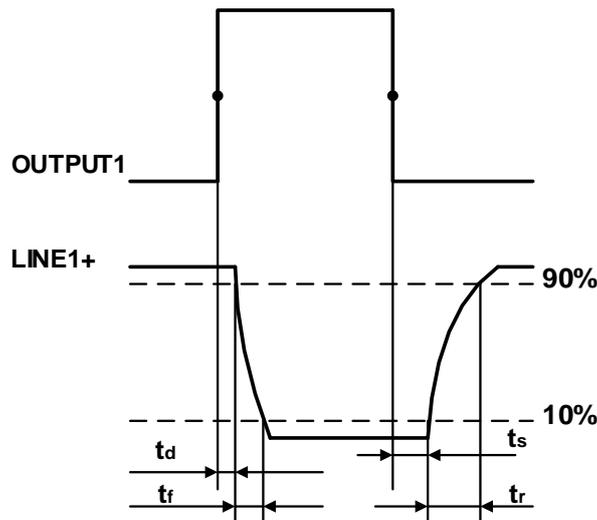

Figure 7-6 Parameter of opto-isolated output circuit
- Rising time delay = t_r+t_d : $<50\mu s$ ($0^\circ C\sim 45^\circ C$) (parameter description is shown in Figure 7-6)
- Falling time delay = t_s+t_f : $<50\mu s$ ($0^\circ C\sim 45^\circ C$) (parameter description is shown in Figure 7-6)
- Rising time delay = t_r+t_d : $<20\mu\text{s}$ ($0^{\circ}\text{C}\sim 45^{\circ}\text{C}$) (parameter description as shown in Figure 7-6)
- Falling time delay = t_s+t_f : $<20\mu\text{s}$ ($0^{\circ}\text{C}\sim 45^{\circ}\text{C}$) (parameter description as shown in Figure 7-6)